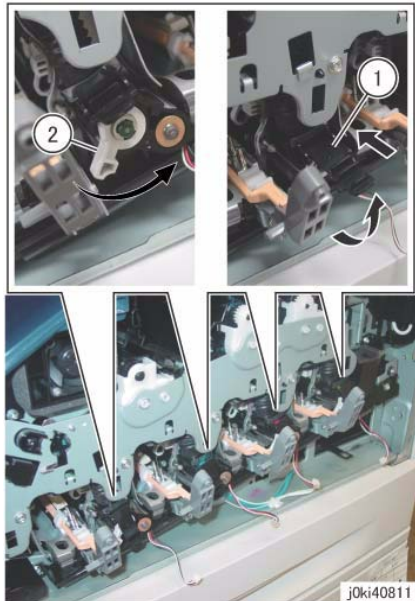

Figure 6 Close the shutters (Y,M,C,K)
10. Close the shutters of the Dispenser Pipe (Y, M, C, K) and the Developer Housing Assembly (Y, M, C, K). (Figure 6)